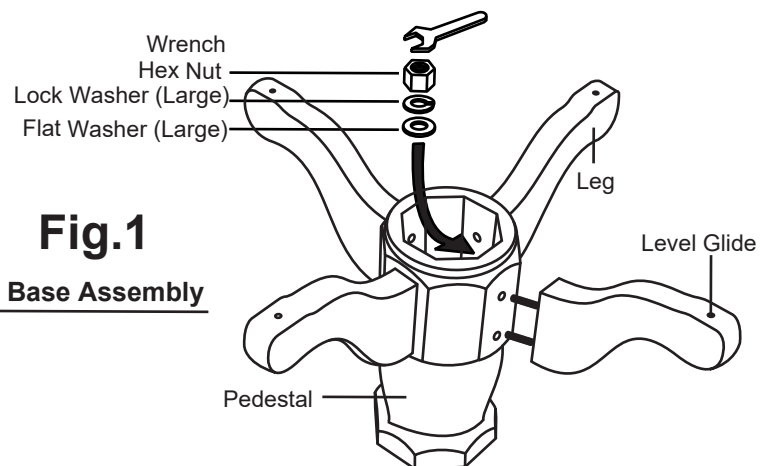

Fig.1
1.1- Turn the pedestal upside down. Attach legs by inserting hanger bolts through pre-drilled holes on the combination pedestal shown in Fig.1